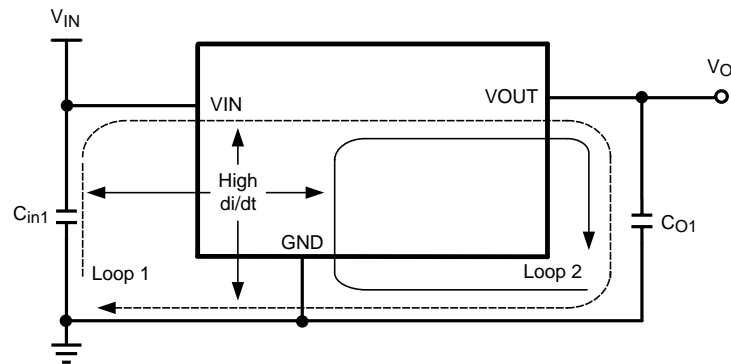

Figure 54. Critical Current Loops to Minimize
From an EMI reduction standpoint, it is imperative to minimize the high di/dt paths during PCB layout as shown in Figure 54. The high current loops that do not overlap have high di/dt content that will cause observable high-frequency noise on the output pin if the input capacitor (C_{IN1}) is placed at a distance away from the LMZ23603. Therefore place C_{IN1} as close as possible to the LMZ23603 VIN and PGND exposed pad. This will minimize the high di/dt area and reduce radiated EMI. Additionally, grounding for both the input and output capacitor must consist of a localized top side plane that connects to the PGND exposed pad (EP).